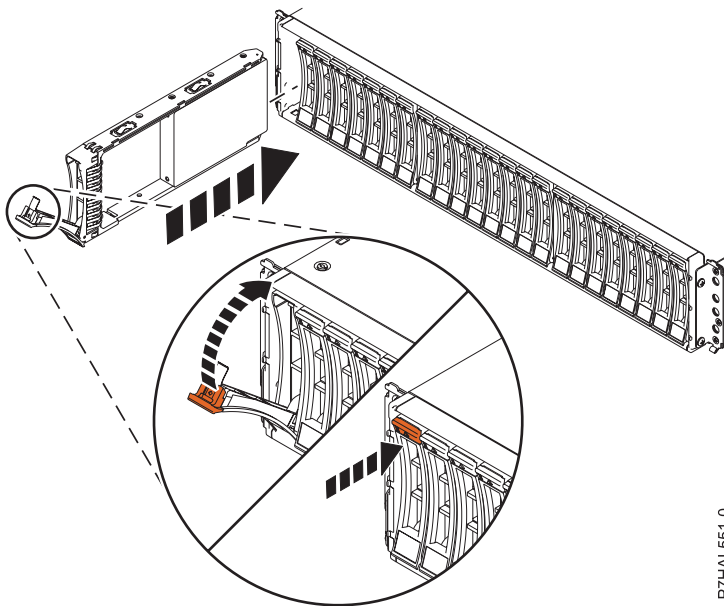

Figure 15. Installing the disk drive in the 58/87 disk drive enclosure
1. With the handle in the unlocked position, see Figure 15, support the bottom of the drive as you align it with the guide rails in the expansion unit.